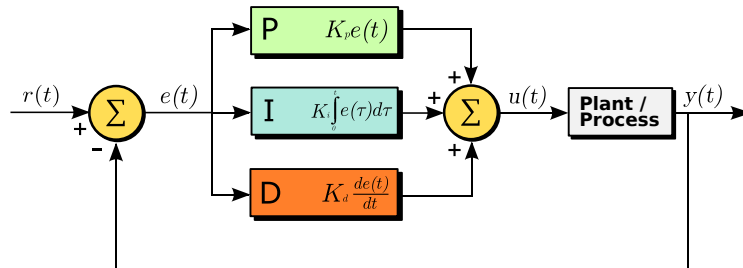

Figure 4: PID controller (source: wikipedia)
standard in control to solve this problem is the PID (proportional–integral–derivative) controller, see figure 4.
For this part of the lab you will need to use two PID loops, one for controlling the power given to the left wheel and the other one for the right wheel. The PID controller is already implemented as part of the standard distribution of *March*, it can be found in the *march\_control* library. It has a single output, which is the update  $u(t)$  in figure 4. It takes four inputs:
- `control` (`std_msgs/float64`) a number which correspond to the target velocity ( $r(t)$  in figure 4)
- `observation` (`std_msgs/float64`) a number which correspond to the odometry value ( $y(t)$  in figure 4)